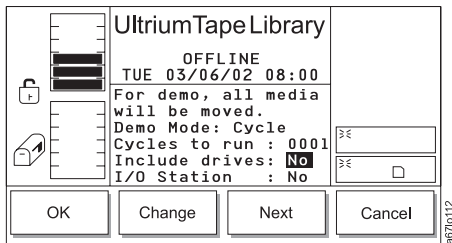

Figure 4-174. Include Drives Dialog
- To include drives or the I/O station in the demo, press the button below the **Next** softkey until the selection cursor highlights the value in the Include drives or I/O Station field. The screen automatically refreshes and displays a **Yes/No** softkey (see Figure 4-174). Press the button below the **Yes/No** softkey until the value that you want displays.